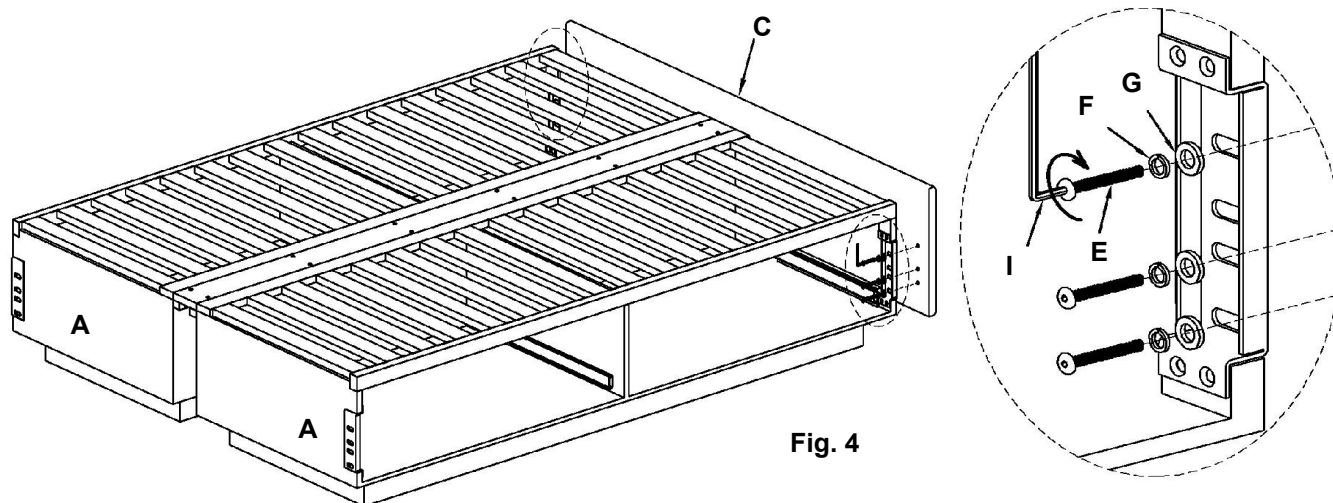

Fig. 4
6. Assemble the Footboard (C) to one side of the Side Frame (A), as shown below.
7. Secure Footboard (C) to the Side Frames (A) with 6 sets of: Bolt E, Spring Washer (F), and Flat Washer (G), as shown in the illustration below. See **Fig. 4**.
8. Tighten all bolts using the supplied Allen Key (I).